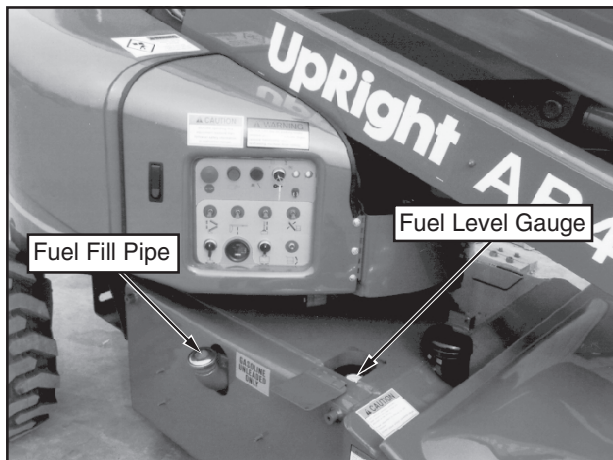

Figure 7: Fuel Fill Pipe and Level Gauge
1. Open fill pipe cap located on chassis left side (see figure 7).
3. Check fuel level by lifting flap located on top of chassis left side (see figure 7). Fuel tank full capacity is 94.1 [25 US gallons].
3. Lift flap located on top of chassis right side (see figure 7).